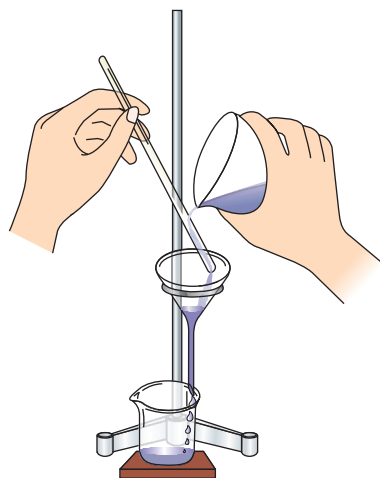

Fig. 2.11 : Process of filtration
- (iv) Add more water so that the stem of the funnel is filled with water. If the filter paper is fitted correctly, the filter paper will support a column of water in the funnel stem. The weight of this column of water produces a mild suction that expedites filtration (Fig. 2.11).
- For separating the solid from the liquid, filtration should be done in two stages. First, almost whole of the liquid should be poured out carefully down a stirring rod (Fig. 2.11). When only a few millilitres of the mixture remain in the beaker, it should be poured into the funnel after swirling the beaker gently. The sides of the beaker are then rinsed with a stream of water and the content is again poured into the funnel. Rinsing is repeated till the beaker and the stirring rod is clean. It is better to pour down a solid liquid mixture along a glass rod (Fig. 2.11). However, care should be taken that paper is not punched by the stirring rod.